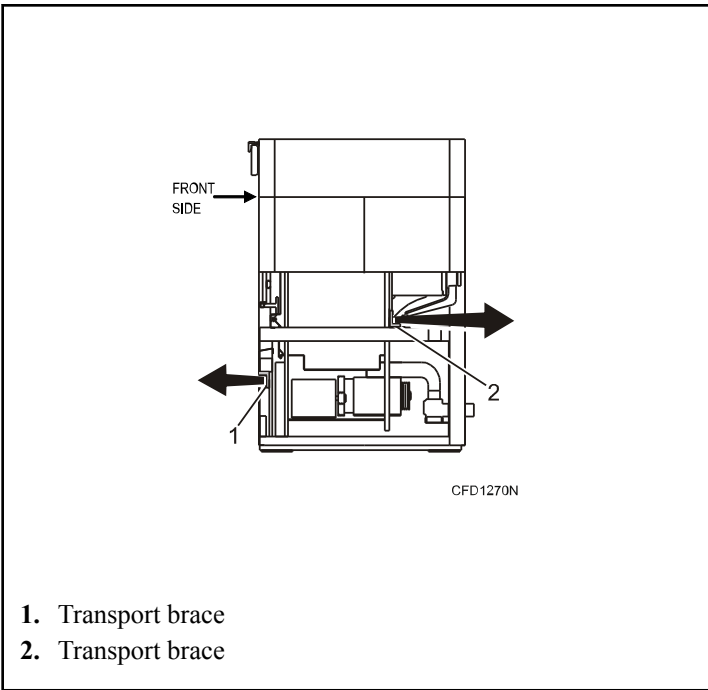

Figure 30
2. One brace is located in the front part of the machine accessible after removal of the front lower cover, refer to *Figure 30*.